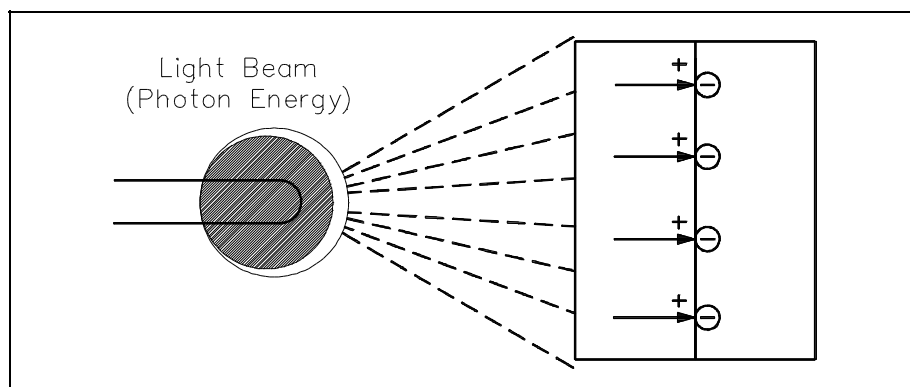

Figure 16 Producing Electricity from Light Using a Photovoltaic Cell
Light is a form of energy and is considered by many scientists to consist of small particles of energy called photons. When the photons in a light beam strike the surface of a material, they release their energy and transfer it to the atomic electrons of the material. This energy transfer may dislodge electrons from their orbits around the surface of the substance. Upon losing electrons, the photosensitive (light sensitive) material becomes positively charged and an electric force is created, as shown in Figure 16.
- **Photovoltaic:** The light energy in one of two plates that are joined together causes one plate to release electrons to the other. The plates build up opposite charges, like a battery (Figure 16).